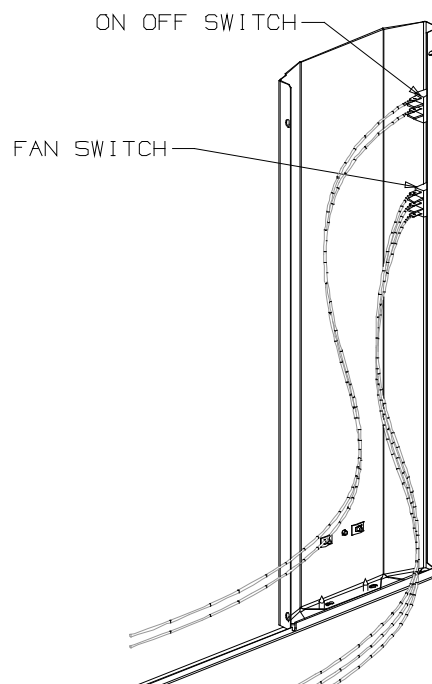

Fig 2.
- 3) There are two switches supplied with the fascia. Insert these into the rectangular holes in the left in the top edge of the LH side panel. The fan switch (3 terminals) must be in the bottom hole and the on-off switch (2 terminals) must be in the top hole. See Fig 2.